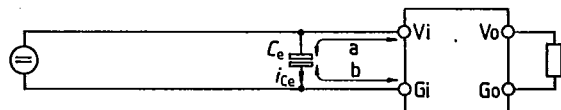
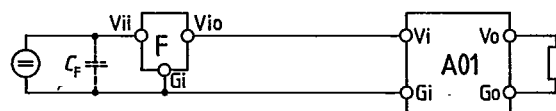

Fig. 21
Fig. 22
Melcher input filter (weight 30 g) for switching regulator in case A01, see Fig. 22
If the input line length exceeds 500 mm, an external (electrolytic) input capacitor C_e with a capacitance value of at least 100 μF must be connected across the switching regulator input terminals V_i and G_i (Fig. 21). However, the connection line lengths $a + b$ together must not exceed 500 mm twisted or 300 mm untwisted.
As shown in Fig. 22, a Melcher input filter can be wired into the input lines in place of capacitor C_e in Fig. 21.
However, if switching regulators are to be used without option L, an external capacitor C_e may be necessary (Fig. 21). See page 12 "4.2 Long Input Lines". If a capacitor is connected directly across input terminals V_i and G_i , a maximum current of 2.6 A_{rms} (about 150 kHz) will flow; in the case of an input line length $a + b = 400$ mm 1.5 A_{rms} at the most. The capacitor must be capable of handling this current.
- Introduce an external capacitor C_e between V_i and G_i (Fig. 21) with a capacitance value of